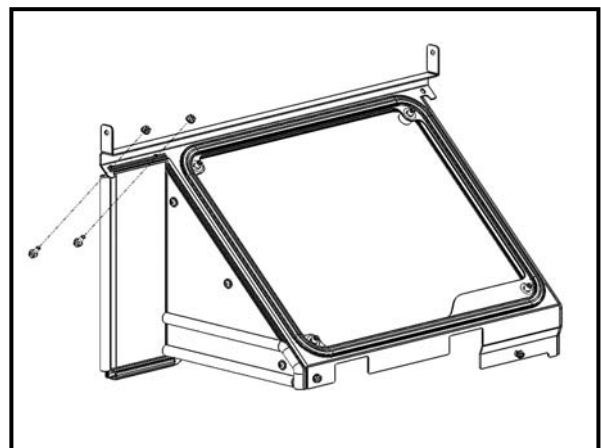

Figure 2.2: Rear Cab Panel Assembly, Right
- 2.2 Fasten upper flange of right filler to center filler with (2) 1/4-20 x 5/8" hex bolts and 1/4" hex nuts (see Figure 2.2).